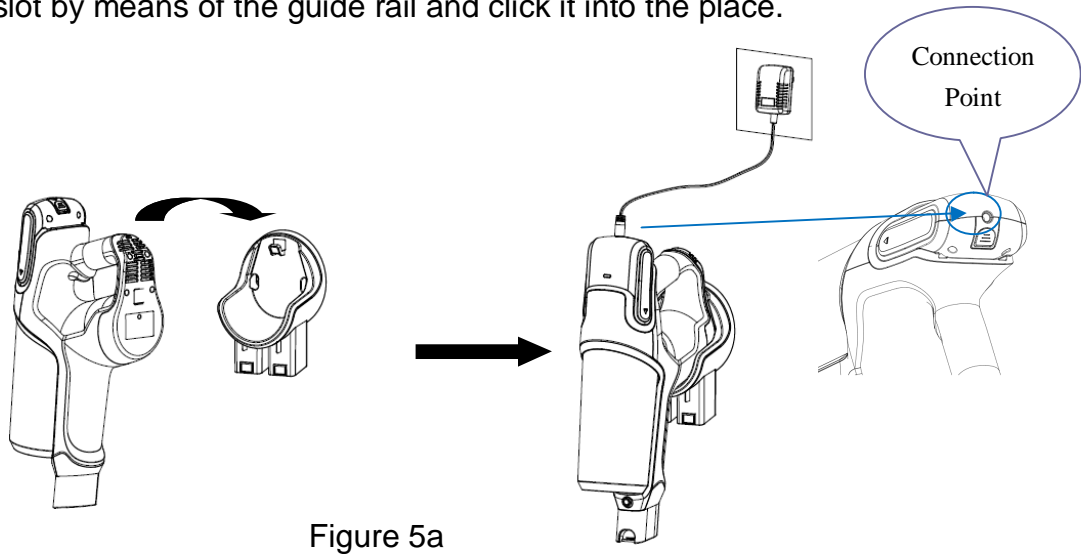
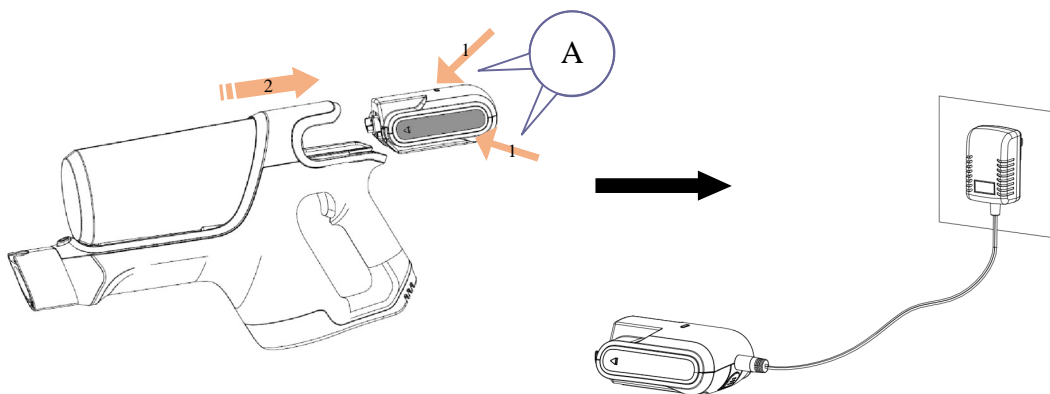

Figure 5a
Figure 5b
There are 2 ways to charge the battery pack – Hang the unit on the wall-mount bracket if the bracket is near to power socket (Figure 5a) or take out the battery pack and charge directly using the charging cable(Figure 5b). Either way, plug the charging cable into the connection point at the back of the battery to start charging.
To release the battery from the slot, press the release button (A) (Figure 5b) at both sides of the battery and pull the battery out. After battery is fully charged, insert the battery into the designated slot by means of the guide rail and click it into the place.